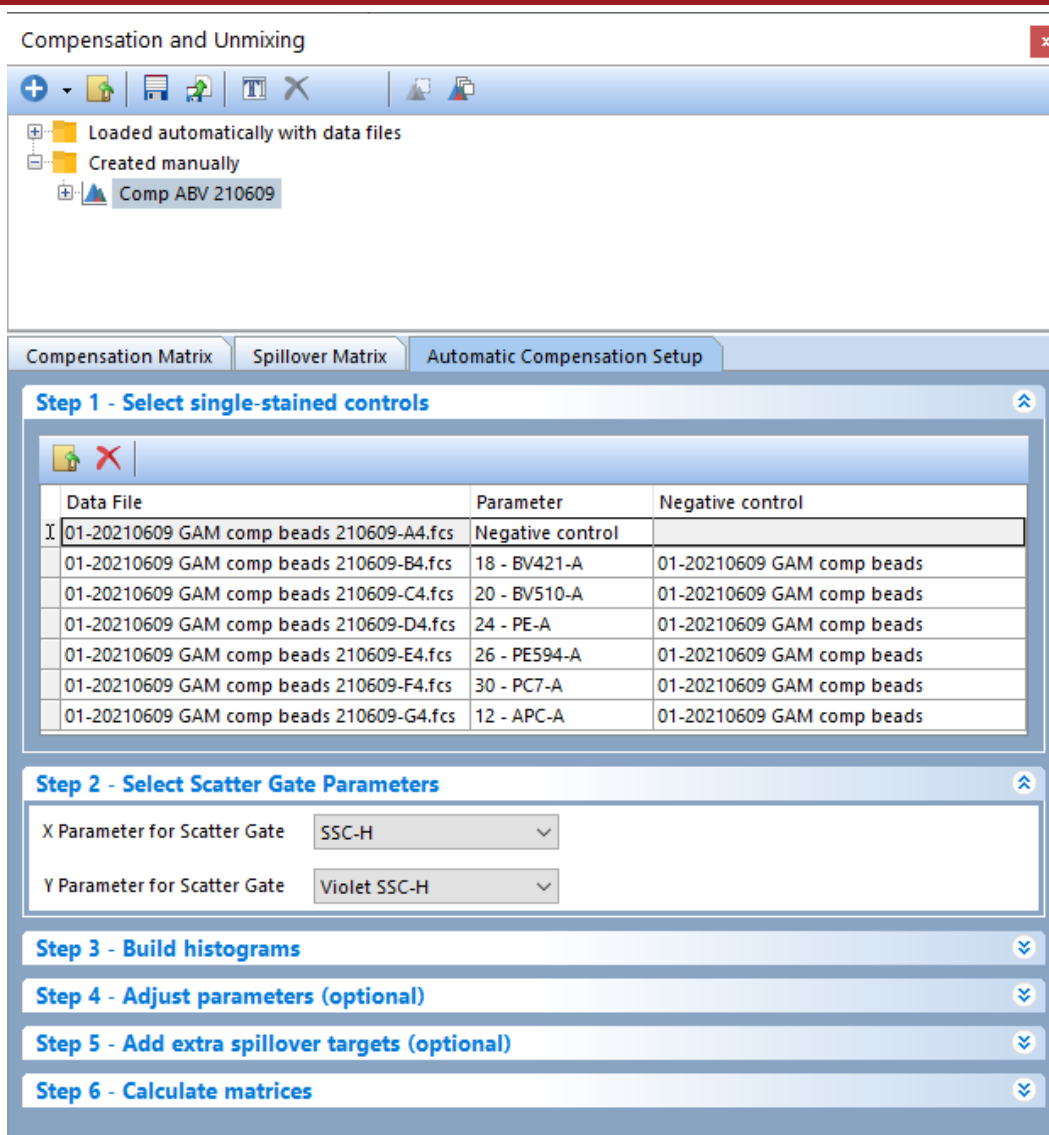

Figure 3. Select scatter gate parameters
13. Set the Scatter Gate Parameters (Step 2) to SSC-H and VSSC-H (Figure 3).
14. Click Build Histograms (Figure 3), and FCS Express will automatically create a page for Scatter Plot and also for each individual Single Stained control.